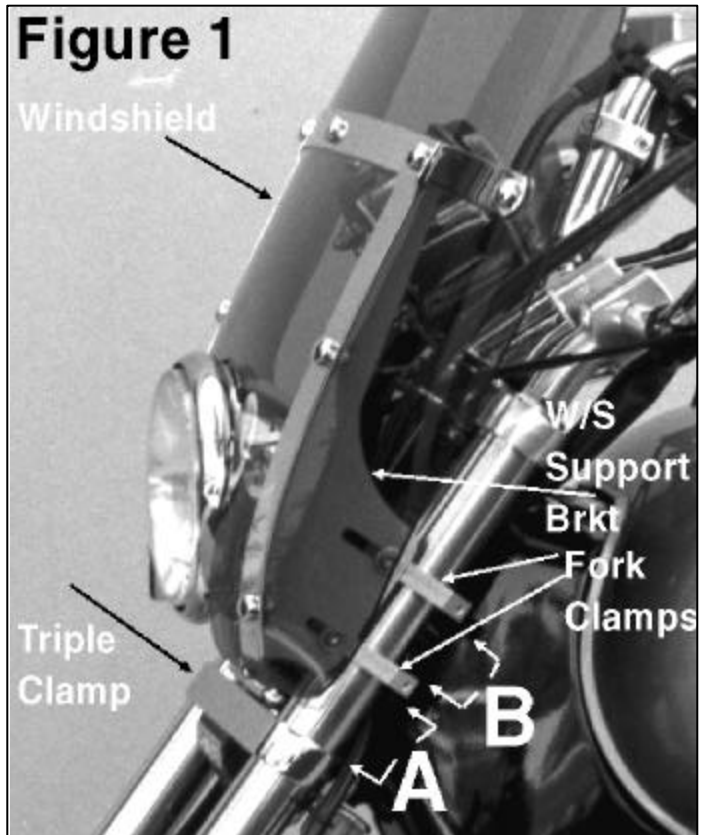

Figure 1
1. Look up your motorcycle on the enclosed application chart. It lists the measurements for installing the fork clamps, and whether your installation requires spacers. All four fork clamps are identical and will be installed onto your fork tubes. See **Figure 1**.
Loosely mount the left and right lower fork clamps with the distance between the lower fork clamp and lower triple clamp taken from measurement **A** on the application chart (Also see measurement **A** on **Figure 1**).
Loosely mount left and right upper clamps with a distance between the lower and upper taken from measurement **B** on the application chart ( Also see measurement **B** on **Figure 1**).